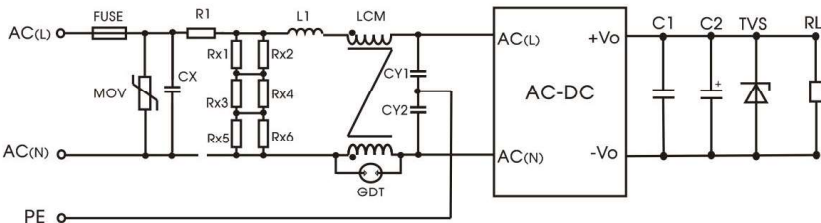

Fig. 8
- When the output terminal of the product needs to be connected to PE through a Y capacitor, or close to the metal frame, please refer to the Fig. 8 for recommended circuit.